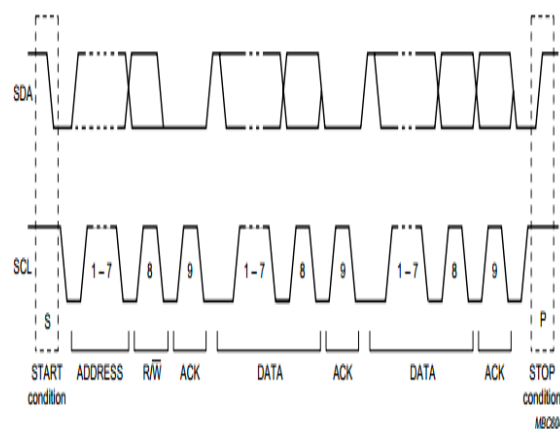

Fig.9 Address is sent after START condition
After the START condition (S), a slave address is sent (see Fig.9). This address is 7 bits long followed by an eighth bit which is a data direction bit (R/W), the bit of (R/W) is "Zero" which indicates a transmission (WRITE), if it's "One" which indicates the master will read data from the slave. The 7-bit address determines which slave will be selected by master. When an address is sent, each device in a system compares the first seven bits after the START with its address. If they match, the device considers itself addressed by the master as a slave-receiver or slave-transmitter, depending on the R/W bit.